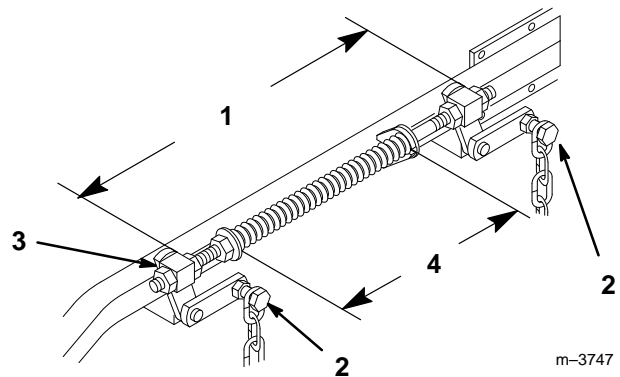

Figure 46
6. Loosen four (4) top chain bolts in slots. Check the length of the rod/swivel assemblies. Distance from outside of rear swivel to outside of front swivel should be 20-1/4" (514 mm) (Fig. 46). Make sure that all four swivels move freely in holes.
13. Springs are compressed so the distance between the two large washers should be 11-1/2" (292 mm) (Fig. 46).
14. Adjust by turning nut in front of each spring (Fig. 46). (clockwise will shorten spring, counter-clockwise will lengthen spring)